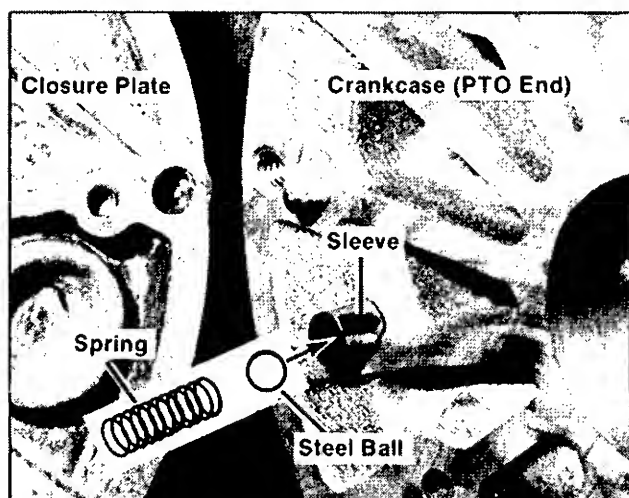

Figure 7-14. Oil Pressure Relief Valve
2. Remove the oil pressure relief valve ball and spring (and steel sleeve, if necessary) from crankcase. See Figure 7-14.